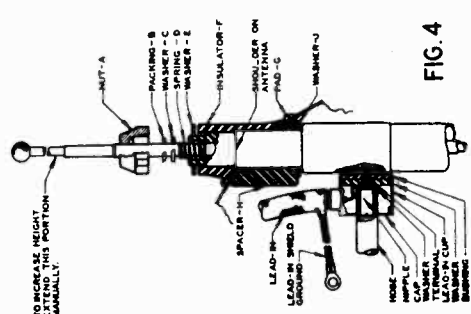

FIG. 4
7. Assemble antenna lead and upper hose connection with parts in order as shown in Fig. 4.
9. Attach the 14" length of hose securely to the upper antenna connection through cap, as shown in Fig. 4.
11. Raise the antenna through the hole in the cowl and install the rubber pad (g) Bakelite insulator (F) Washer (E) Spring (D) Brass Washer (C) Packing gland (B) and nut (A). Tighten nut (A) until the shoulder and the antenna insulator seats against the top of antenna shield, as shown in Fig. 4. IMPORTANT - When tightening nut (A) do not get it too tight. Turn it down carefully until the stop is reached, then back off slightly.
To lock the tuner mechanism push on the dial tuning knob hard enough to make it stay latched in. Rotate the dial tuning knob to the right (clockwise) until the knob cannot be turned any further with forcing it. (See Fig. 4) This will lock the tuner mechanism and all the stations that have been set up on the buttons will be locked in place for automatic tuning.